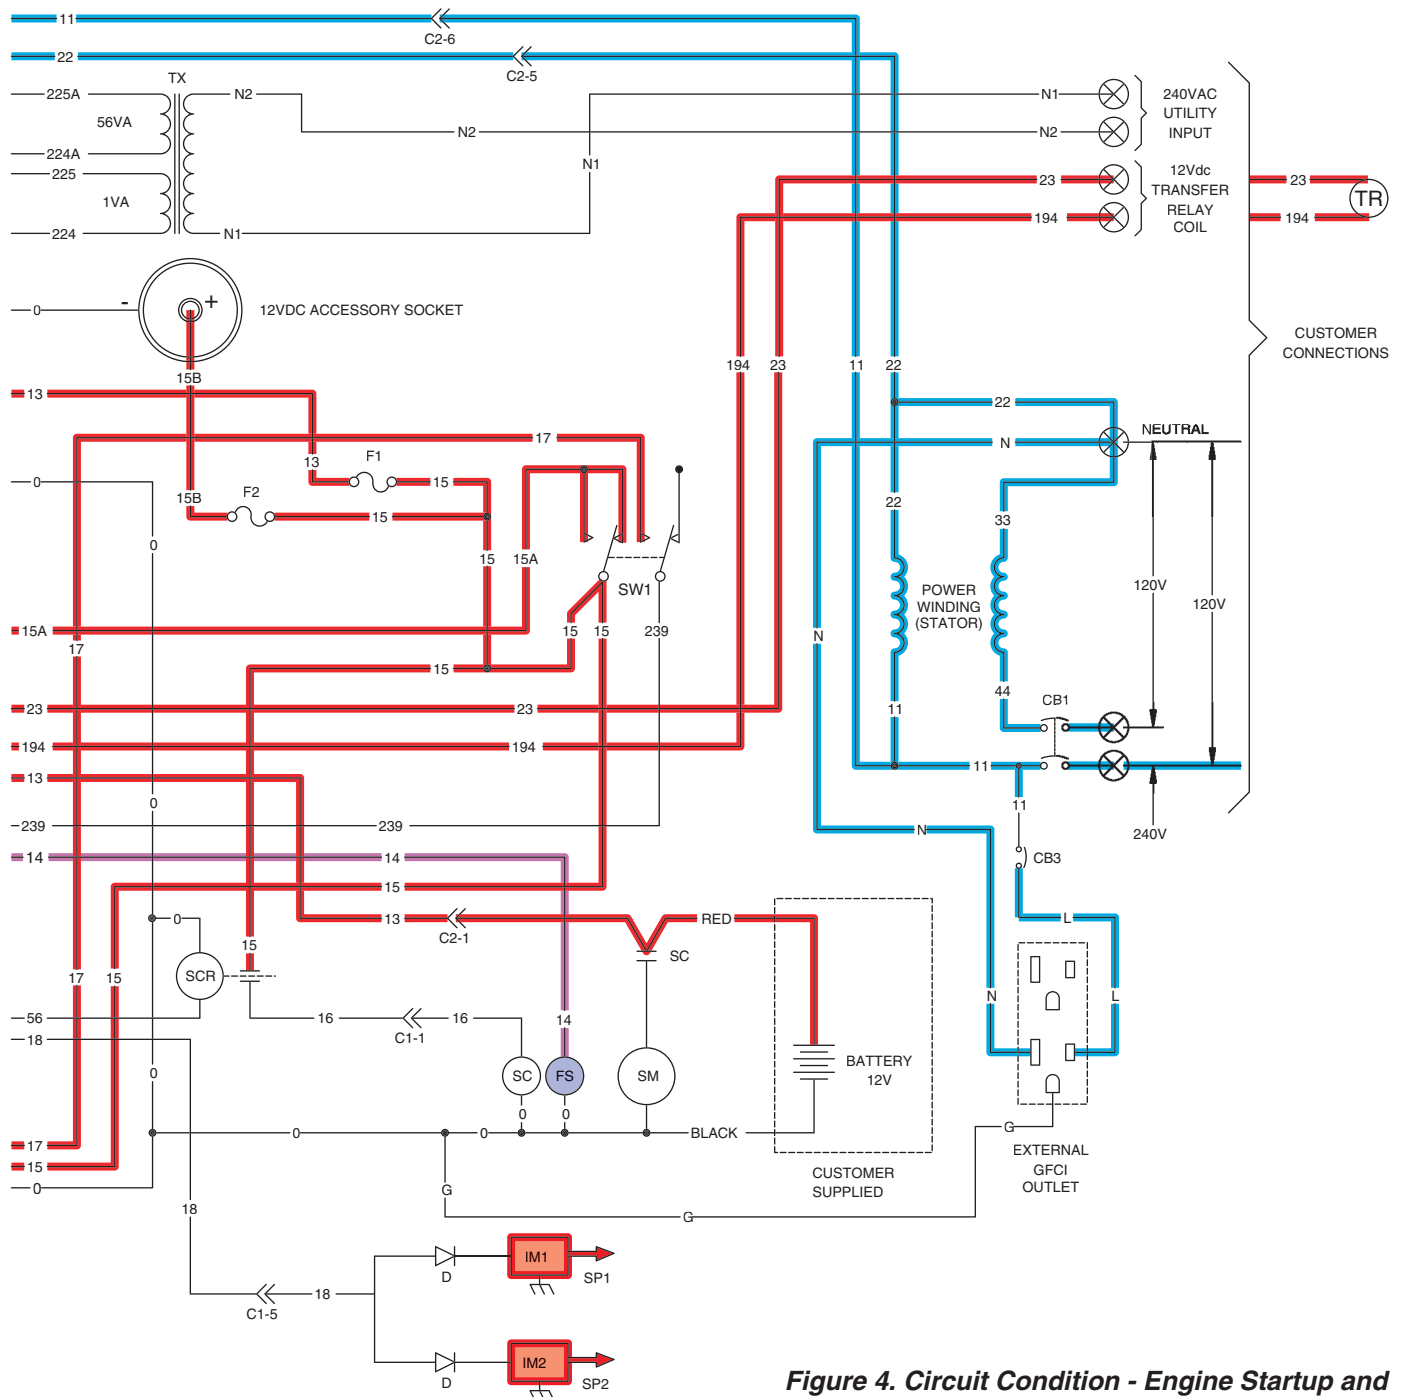

Figure 4. Circuit Condition - Engine Startup and Running
- The “engine warm-up timer” will run for about 15 seconds. When this timer finishes timing, board action will initiate transfer to the STANDBY power source. As shown in Figure 4 (above), the timer is still running and transfer has not yet occurred.